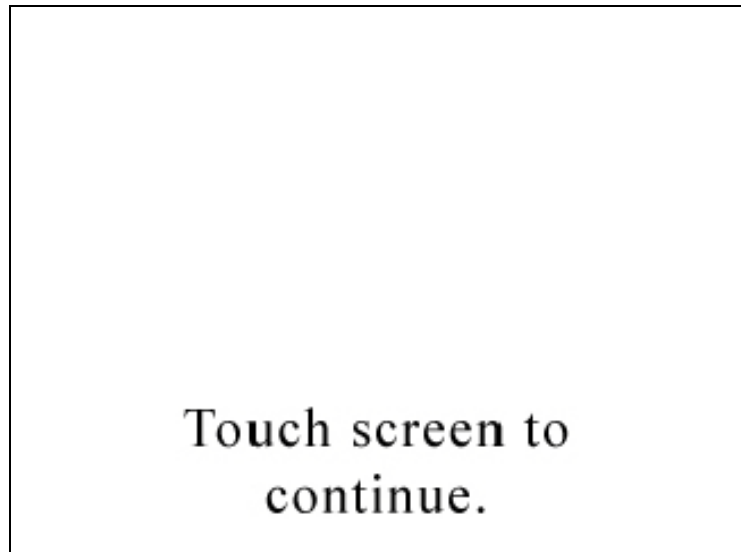

Figure 4-42 Alignment Saved Screen
- Once the final alignment is complete, the following screen is displayed. See Figure 4-42. Touch anywhere in the screen to return to the OPTIONs screen.